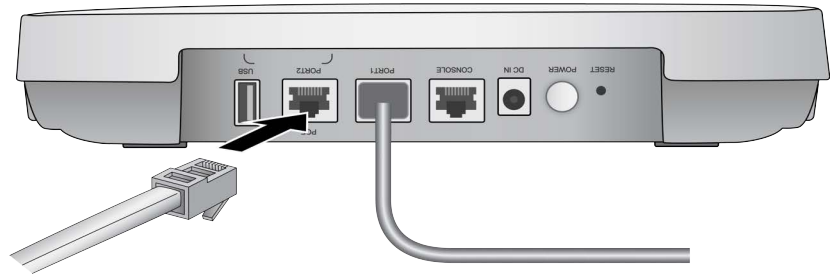

Figure 21. Connecting the Ethernet Cable to PORT2
3. To use PORT2 in the static LAG or Cascade mode, connect a second Ethernet cable to the port. See Figure 21.